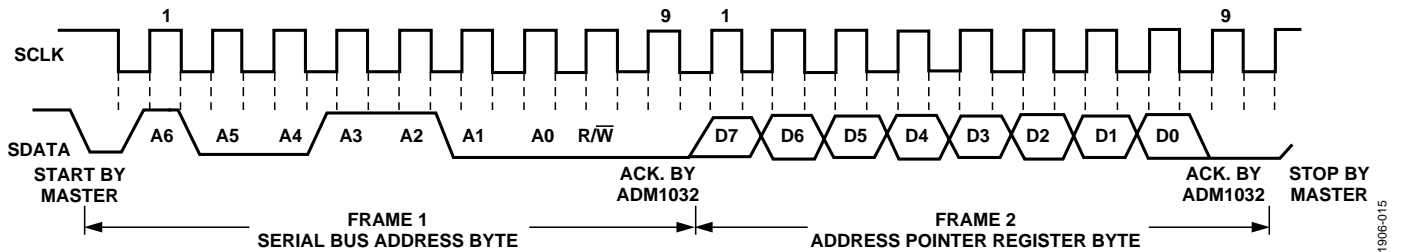

Figure 15. Writing to the Address Pointer Register Only
- If the address pointer register value is unknown or not the desired value, it is first necessary to set it to the correct value before data can be read from the desired data register. This is done by performing a write to the ADM1032 as before, but only the data byte containing the register read address is sent because data is not to be written to the register. This is shown in Figure 15.
- If the address pointer register is known to be at the desired address already, data can be read from the corresponding data register without first writing to the address pointer register and Figure 15 can be omitted.